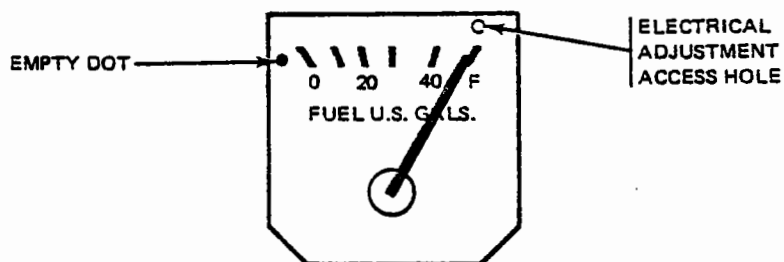

Figure 28-5. Fuel Gauge
9. With the tanks full and master switch "ON," the needle should be centered on the "F" radial mark within ± 1 needle width. If not within this tolerance, adjust the electrical adjustment (refer to Figure 28-5) just sufficiently to bring it within tolerance; do not center the needle.